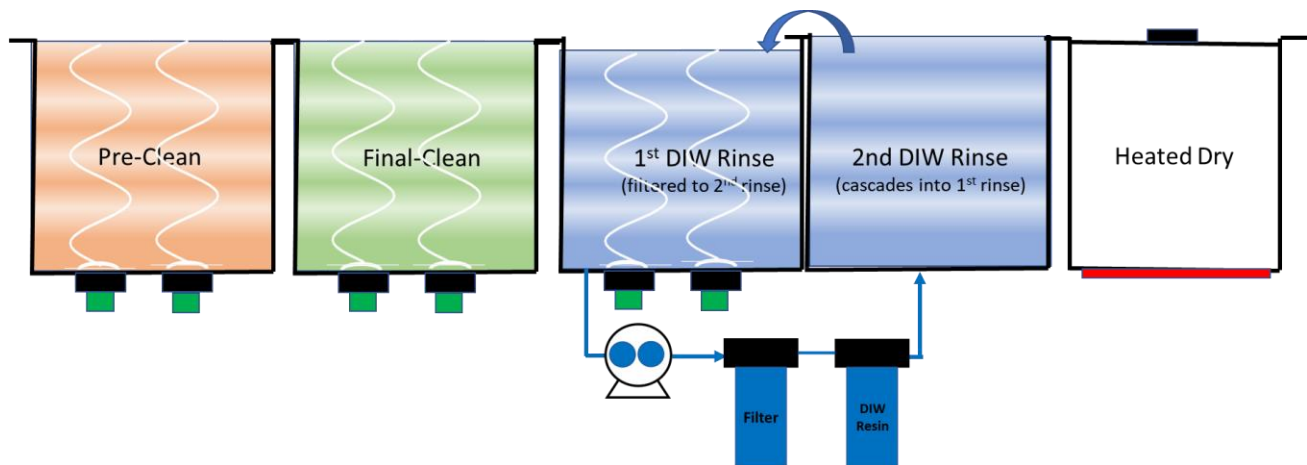

Figure 49 - Industrial Precision Ultrasonic Cleaning Console
- XII.6 The two-step final rinse that first uses tap water to remove the Dow™ Tergitol™ NID cleaning solution and then uses Purified (distilled/demineralized) water to remove the tap-water mimics the steps used for many precision aqueous cleaning processes using a console similar to **Figure 49**. Following final cleaning with chemistry, a two-step cascading (filtered & demineralized) two-tank rinse is generally used. The first final rinse (often an ultrasonic tank) uses Purified-water to remove residual final cleaner, while a second final rinse (cascading into the first rinse) is performed with Pure-water to remove the Purified-water and any contaminants and achieve final cleanliness free of residue. So, depending on the required cleanliness level, the first final rinse is generally one step less quality than the second final rinse.